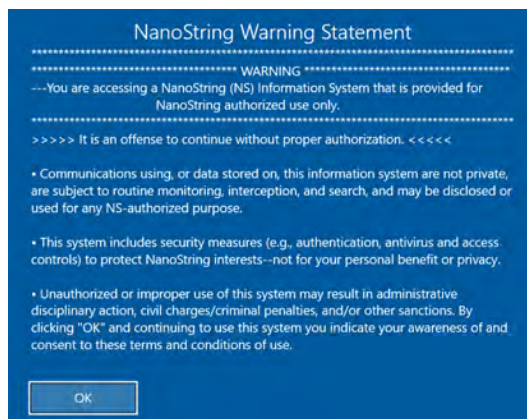

Figure 10: NanoString Warning Statement
1. When first logging into the computer, enter the NanoString provided User Name and Password. Read through the NanoString Warning Statement (see Figure 10) and click **OK** to continue.